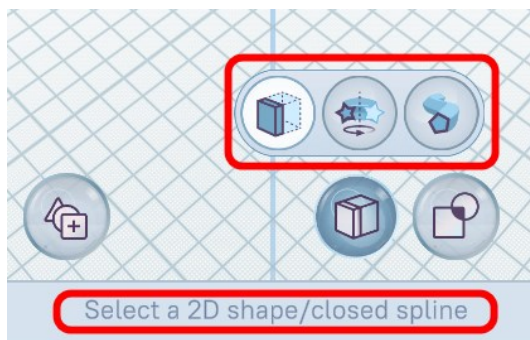

Figure 90 –Tool settings panel and tool tips
The **Kinematic Operations** tool is activated by the **Kinematic Operations** button  on the control panel. A tool settings panel appears above the button, which contains three buttons for selecting a specific operation (Figure 90):
While the **Kinematic Operations** tool is enabled (the button is active: ), tips are displayed under the control panel (Figure 90).
- 1) Choose the required shaping operation on the tool settings panel (Figure 90).
- 2) Press the **Kinematic Operations** button  on the control panel (Figure 28). The tool settings panel will appear above the button, and tooltips will be displayed in the properties panel, below the control panel (Figure 90).
- 2) Press the **Kinematic Operations** button  on the control panel (Figure 28). A panel for selecting a shaping operation will appear above the button, and tips will be displayed in the properties panel under the work area (Figure 90).
- 3) Press the **Kinematic Operations** button  on the control panel. The tool settings panel will appear above the button, and tooltips will be displayed in the properties panel, below the control panel (Figure 90).